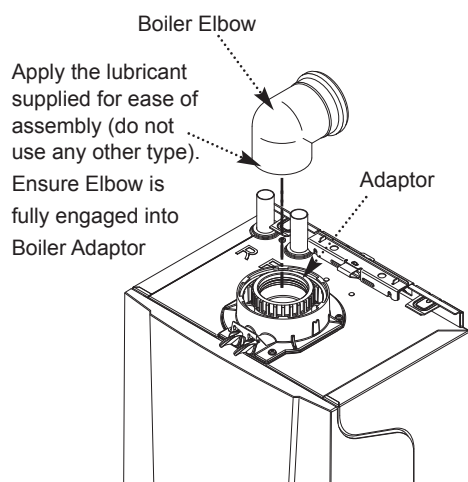

Fig. 29
12. Insert the flue through the hole in the wall. Fit the elbow to the boiler adaptor, ensuring that it is pushed fully in (Fig. 29).